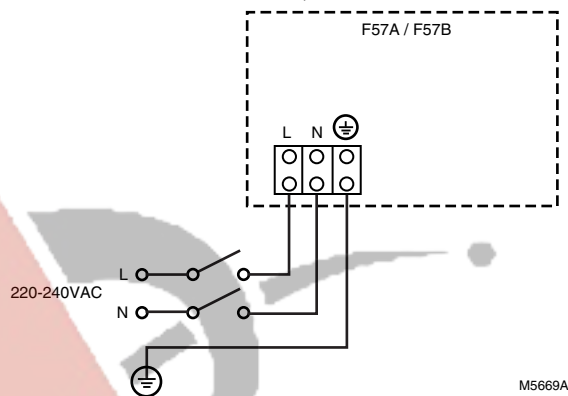

Fig. 8. Typical F57 wiring hookups.
- Attach the black and white wires to the black and white wires from the F57 using the wire nuts. See Fig. 8.
To wire 220–240 Vac, 50 Hz model, see Fig. 8.